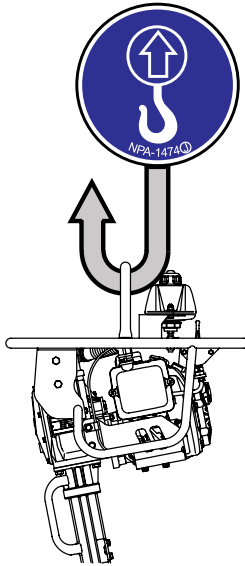

Figure 19. Lifting the Rammer
- Only use the single hook (Figure 19) to lift the machine. **DO NOT** support it from any other points (such as the handle).